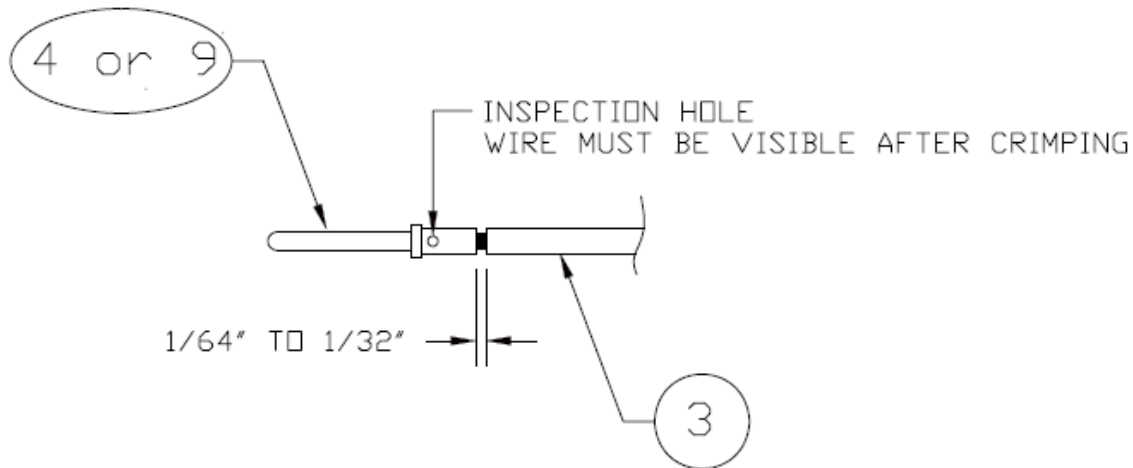

Figure B-3. Insulation/Contact Clearance
For the following steps please refer to Figures B-3 & B-4.
1. Strip back approximately 0.17 inches of insulation from each wire of the four conductor wire harness (item 3) and crimp either a pin (item 4) or a socket (item 9) to each conductor. It is the responsibility of the installer to determine the proper length of insulation to be removed. Wire must be visible in the inspection hole after crimping and the insulation must be $\frac{1}{64}$ – $\frac{1}{32}$ inches from the end of the contact as shown in Figure B-3.